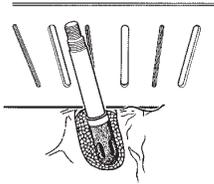

Fig. 3
- Thread the Alignment Pin by hand directly into the divergent implant (or implant analog on a stone model) being careful not to cross-thread the pin. Place the stainless steel Angle Measurement Guide (Zest order No. 9530) behind the Alignment Pin, level with the path of prosthesis insertion, to determine the divergence in degrees. (Fig. 3) An additional Alignment Pin can be placed into an adjacent non-divergent implant to determine the difference in the angle between it and the divergent implant.